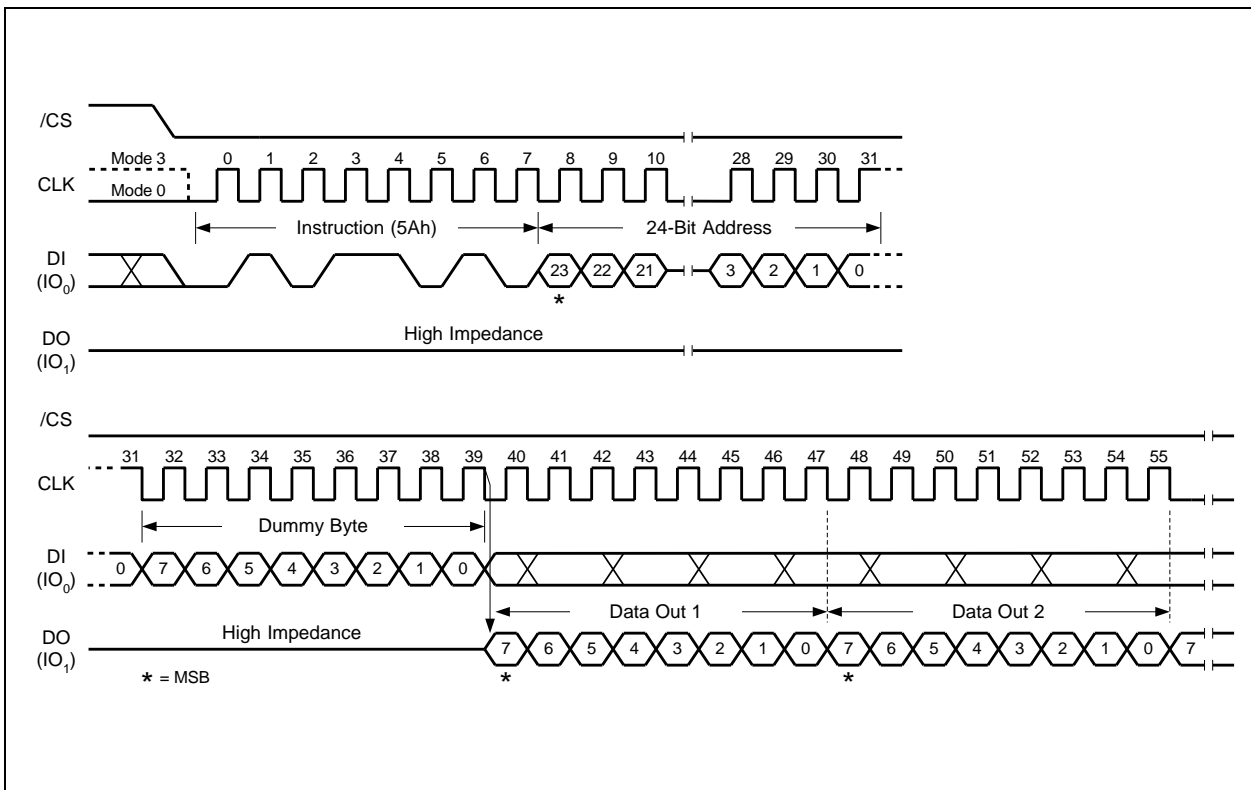

Figure 44. Read SFDP Register Instruction Sequence Diagram (SPI Mode only)
The Read SFDP instruction is initiated by driving the /CS pin low and shifting the instruction code “5Ah” followed by a 24-bit address (A23-A0)(1) into the DI pin. Eight “dummy” clocks are also required before the SFDP register contents are shifted out on the falling edge of the 40th CLK with most significant bit (MSB) first as shown in Figure 44. For SFDP register values and descriptions, please refer to the Winbond Application Note for SFDP Definition Table.